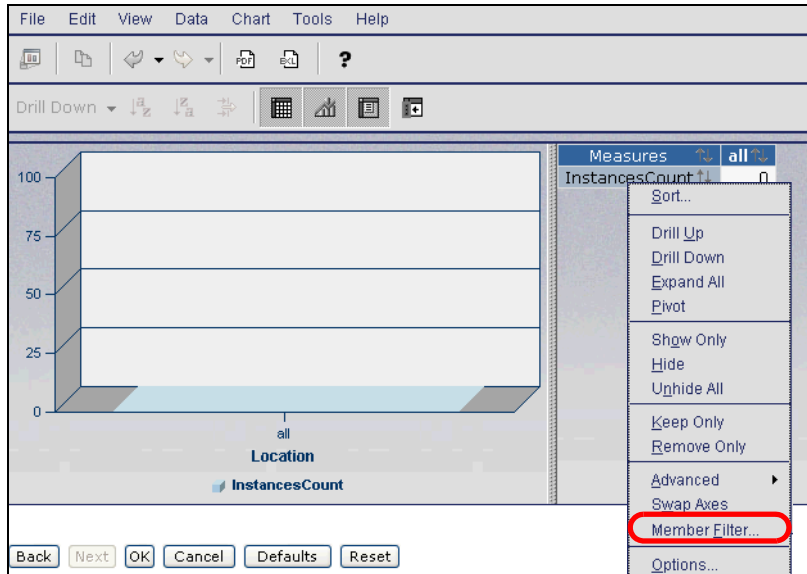

Figure 14-81 Dimensions view: Initial
- ▶ Click *Next* to tailor the view (Figure 14-81). If you already have instances (processed orders), then the instances count would show the value. If you configure before having orders, then the count is 0.